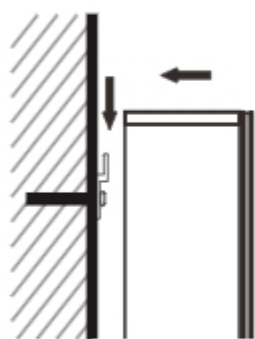

Fig. 3
- 2.1 Attach the mirror cabinet to the bar as shown in Fig. 3, open the cabinet door, and mark on the wall with a pencil (Fig. 4) through the backplane hole (a).
- 2.3 Repeat the operation as shown in Fig. 3 and mount the mirror cabinet to the bar, make sure that the circuit on the wall is not energized and connect the three-core wire reserved on the wall to the three-core wire terminal block on the product (Fig. 6), and then tighten the screws on the backplane (Fig.6-b).